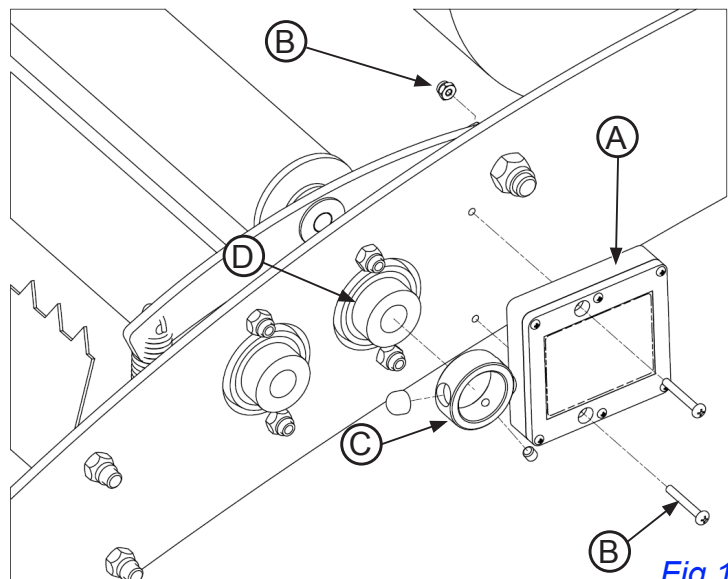

Fig.1
1. Ensure two (2) 1.5V AAA alkaline batteries are inserted into each transmitter (A). See Fig.1.